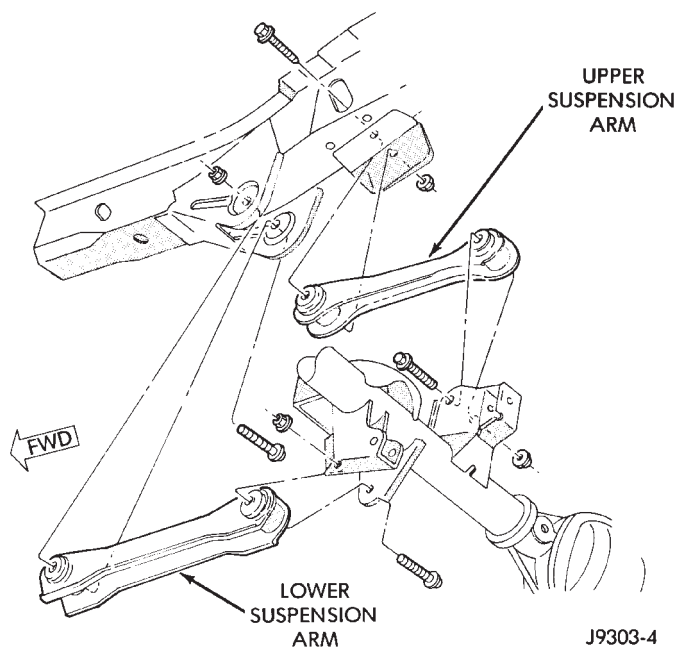

Fig. 3 Upper and Lower Suspension Arms
(1) Raise and support the vehicle.
(2) Remove the upper suspension arm nut and bolt at the axle bracket (Fig. 3). Remove the ABS wire bracket from the arm.
(3) Remove the nut and bolt (Fig. 3) at the frame rail and remove the upper suspension arm.
(1) Position the upper suspension arm at the axle and frame rail (Fig. 3).
(2) Install the bolts and finger tighten the nuts (Fig. 3). Install the ABS wire bracket onto the arm.
(3) Remove the supports and lower the vehicle.
(4) Tighten the nut at the axle bracket to 75 N•m (55 ft. lbs.) torque.
(5) Tighten the nut at the frame rail to 75 N•m (55 ft. lbs.) torque.
(2) Remove the lower suspension arm nut and bolt at the axle bracket (Fig. 3).
(3) Remove the nut and bolt (Fig. 3) at the frame rail and remove the lower suspension arm.
(1) Position the lower suspension arm at the axle bracket and frame rail bracket (Fig. 3).
(2) Install the bolts and finger tighten the nuts (Fig. 3).
(4) Tighten the nut at the axle bracket to 177 N•m (130 ft. lbs.) torque.
(5) Tighten the bolt at the frame rail to 177 N•m (130 ft. lbs.) torque.